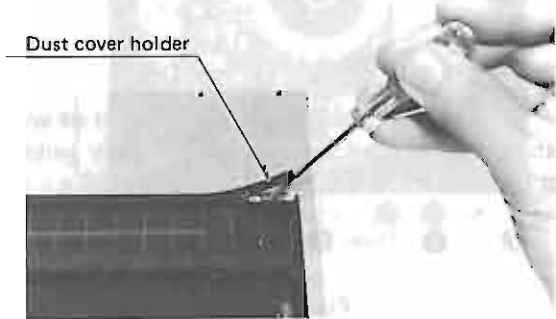
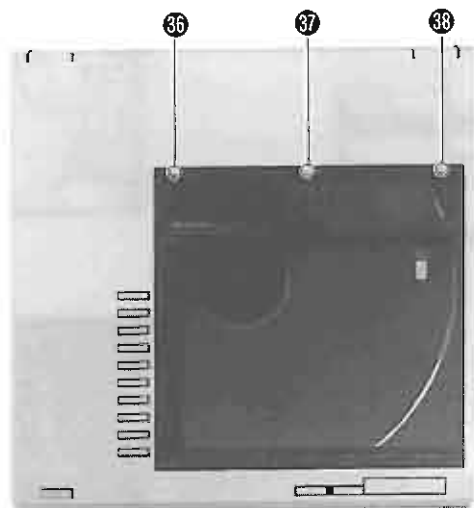

Fig. 11
Fig. 12
Keeping the upper cabinet closed, loosen and remove the dust cover holder with a screwdriver as shown in Fig. 11. Remove the dust cover setscrews ⑥ ~ ⑧; then the dust cover can be removed. (See Fig. 12)